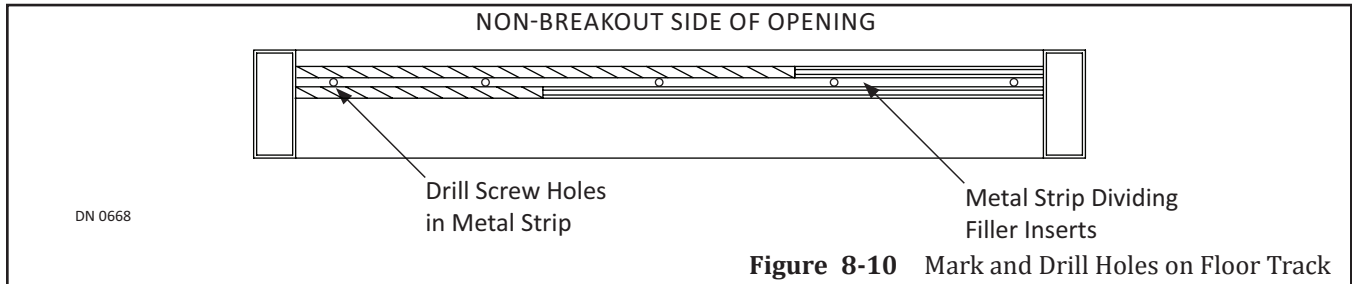

Figure 8-10 Mark and Drill Holes on Floor Track
2. Go to a metal strip that is used to divide the Filler Inserts. Please see Figure 8-10
3. Go to each end of Floor Track. Mark (1) drill hole approximately 4" (102mm) from each edge.